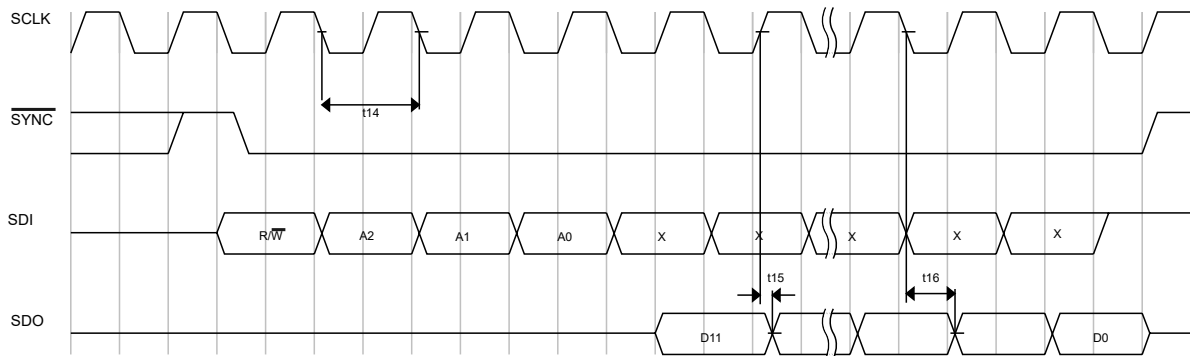
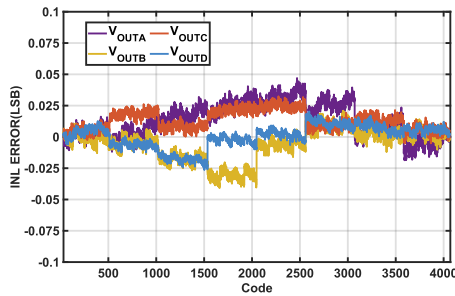
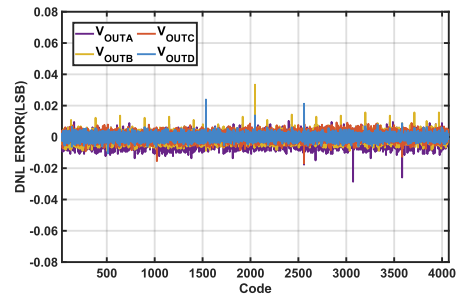

Figure 2. Read Timing Diagram
Figure 3. Typical INL
Figure 4. Typical DNL
(1) Guaranteed by characterization; not production tested.
(2) All input signals are specified with $t_R = t_F = 5$ ns (10% to 90% of DVCC) and timed from a voltage level of 1.2 V.
(3) See Figure 2, Figure 3, and Figure 4.
(4) CL SDO = capacitive load on SDO output.